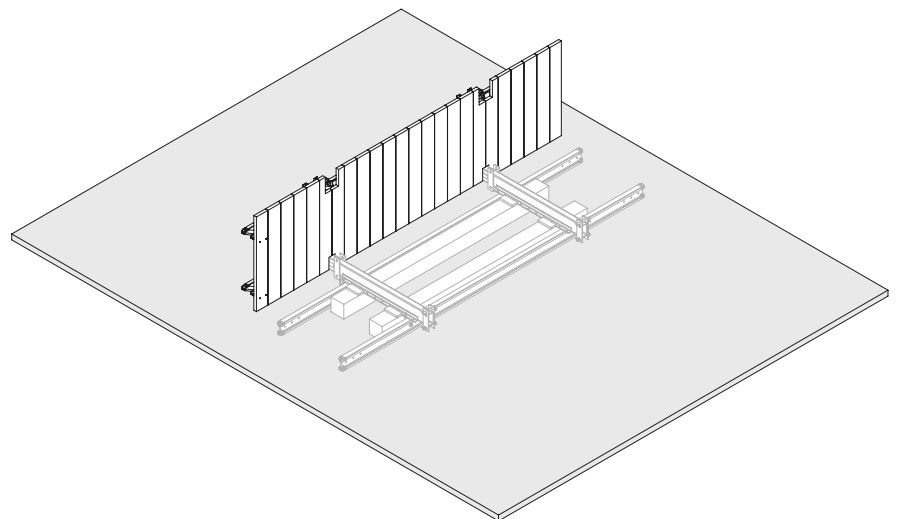

Fig. B10.09
2. Connect both assemblies together with the fixing materials supplied. (Fig. B10.09 + B10.10)